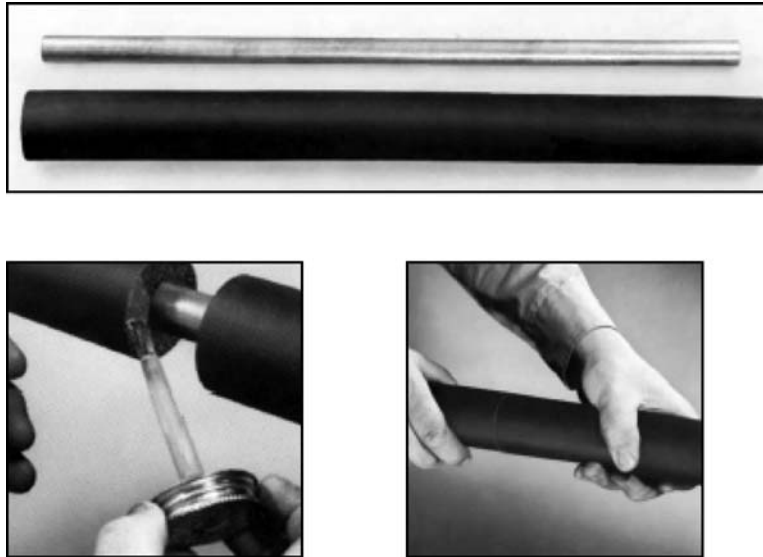

FIG. 2 Apply Adhesive to all Butt Joints Installed/Existing Pipe Work
10.1 *Straight Pipe Section – unjoined*—Slide insulation along the pipe work for straight runs. Seal all butt joints, cut outs and termination points. See Fig. 2.